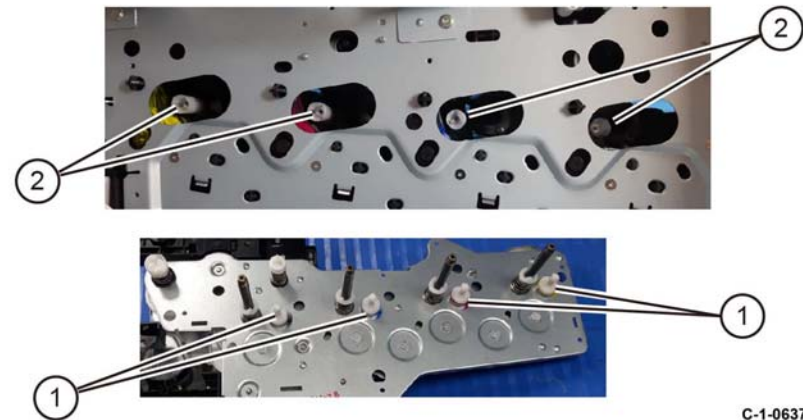

Figure 7 Drive assembly alignment
2. When installing the drive assembly, align each of the four bosses on the assembly with the receptacles in the chassis, Figure 7.